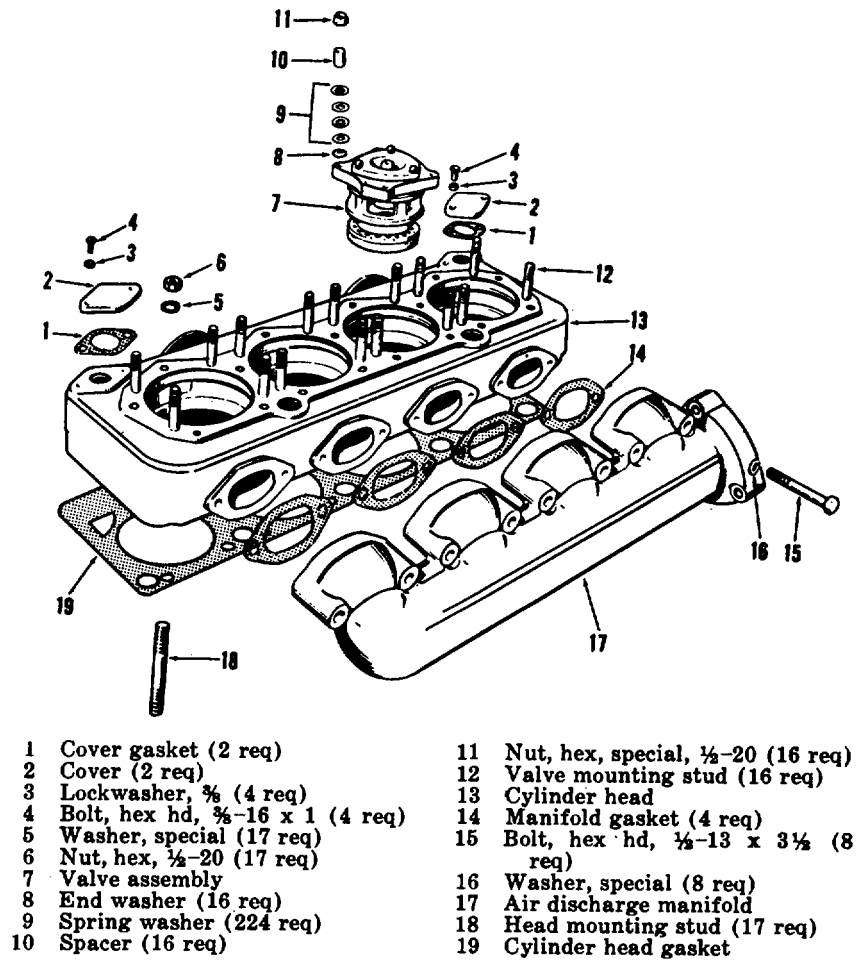

Figure 60. Exploded view of compressor cylinder head, valves and manifold.
- (1) Open the receiver service valves and release the air from the air receiver.
- (2) Remove the aftercooler to manifold studs and nuts (par. 117a(3)).
- (3) Remove the eight hex head bolts (15, fig. 60) and special washers (16) and lift the air discharge manifold (17) and gaskets (14) away from the compressor cylinder head and aftercooler. Remove the packing and sleeve (22 and 25, fig. 51) from the manifold discharge opening.
- (2) Apply a coat of gasket cement to the gasket surfaces of the manifold (17, fig. 60) and compressor cylinder head (13). Position the gaskets (14) around the cylinder head openings and lift the manifold up into place. In so doing, engage the manifold discharge opening with the aftercooler inlet opening.
- (3) Install the eight hex head bolts (15) and special washers (16), tightening the nuts with a torque wrench to 60 foot-pounds.
- (4) Install the aftercooler to manifold studs as instructed in paragraph 117c (3).
- (3) Each valve assembly (7, fig. 60) is mounted on four studs (12) in the cylinder head. From each stud, remove a special nut (11), a spacer (10), 14 spring washers (9) and an end washer (8). Lift the valve assembly from the cylinder head.
- (1) Install the valve assembly (7, fig. 60) on the four mounting studs (12) in the cylinder head.
- (2) Directly across from one another, at the edge of the valve body, are two square head set screws with lock nuts. These set screws must be adjusted so that a 3/32- inch feeler gage fits, snugly between the
a. Removal (fig. 60).
- (1) Remove the air discharge manifold (par. 124a).
- (2) Remove the compressor valves (par. 125a).
- (3) Remove the compressor air cleaners (par. 123a).
- (4) Remove the 17 hex nuts (6) and special washers (5) from the head mounting studs (18), and lift the compressor cylinder head (13) and gasket (19) straight up from the studs.
c. Installation (fig. 60)
- (1) Place the new cylinder head gasket (19) on the mounting studs (18). Lift the cylinder head into position above the crankcase, and carefully lower it onto the mounting studs.
- (2) Install the 17 special washers (5) and hex nuts (6). These nuts must be tightened with a torque wrench to 90 foot-pounds. Tighten the center nut first; then work alternately toward each end of the cylinder head, using a cross-cross pattern, until all nuts are tightened.
- (3) Install the compressor air cleaners (par. 123c).
- (4) Install the air discharge manifold (par. 124c).
- (5) Install the compressor valve assemblies (par. 125c).